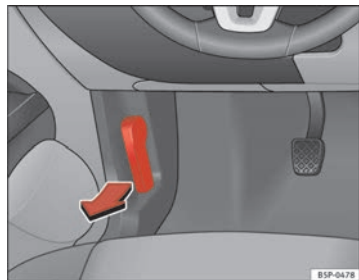

Fig. 161 Detail of footwell area on driver's side: lever for unlocking the bonnet.
- To release the bonnet, pull the lever under the dashboard ⇒ **fig. 161** in the direction indicated (arrow). The bonnet will be released by a spring action ⇒ **⚠**.